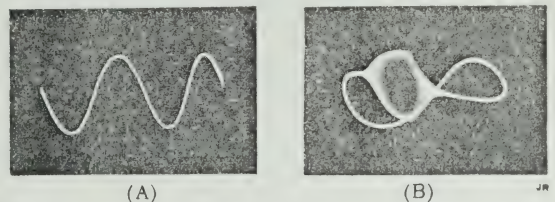

Figure 2-4. Typical Oscillograms Obtained with Distortion Meter-Oscilloscope Combination
d. Oscillograms illustrating type of information obtainable with distortion meter-oscilloscope combination are shown in figure 2-4. Figure 2-4A shows a sine wave with approximately 1.5% distortion. Figure 2-4B shows oscilloscope presentation obtained